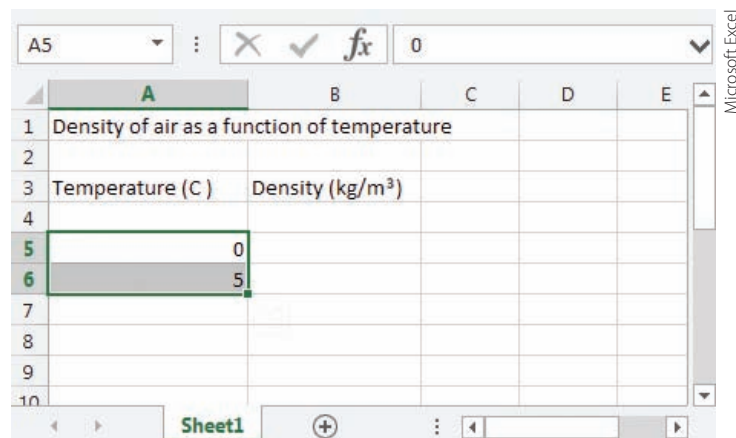

FIGURE 14.3
2. In cells A3 and B3, type **Temperature (C)** and **Density (kg/m³)**, respectively.
3. In cells A5 and A6, type **0** and **5**, respectively (Figure 14.3).